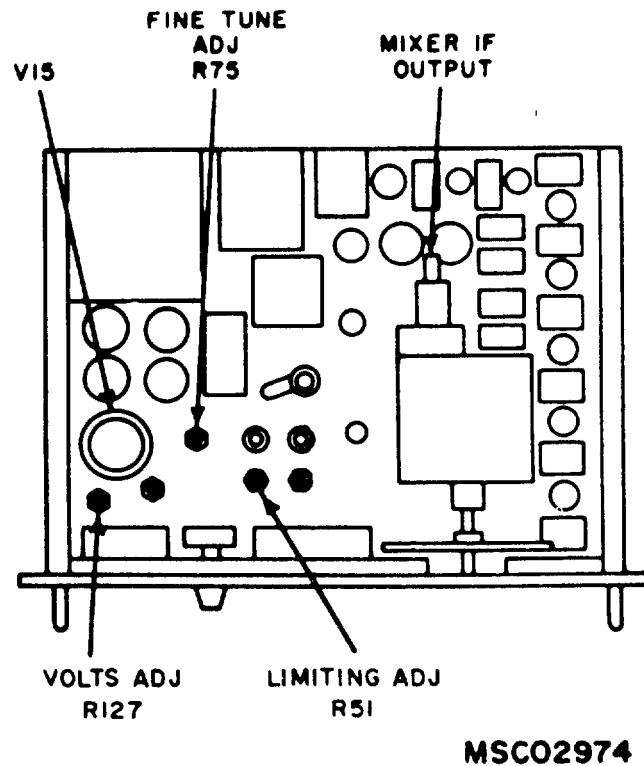

Figure 1. Modulation meter - top view.
(1) Set **FREQUENCY RANGE-MC** switch to 250-500 and adjust **FREQUENCY-MC** dial to 400.
(2) Adjust signal generator (A6) for a 400-MHz CW signal output at 5 mV amplitude.
(3) Adjust TUNING control for maximum indication on LIMITING meter while maintaining 5 mV amplitude. If LIMITING meter pointer is not within the black area, perform **b** below.
b. Adjustments. Adjust LIMITING ADJ R51 (fig. 1) until TI LIMITING meter pointer is at beginning edge of black area (R).
(1) Adjust signal generator for an indication of 250 kHz above value recorded in **a**(4) above.
(2) Adjust FINE TUNE ADJ R75 (fig. 1) until CARRIER SHIFT meter indicates a negative shift of 250 kHz (R).
a. Performance Check. Connect digital voltmeter (A3) between pin 6 of V15 (fig. 1) and chassis ground, using probe (B7). If digital voltmeter does not indicate between 189.15 and 200.85 V dc, perform **b** below.
b. Adjustments. Adjust VOLTS ADJ R127 (fig. 1) for a 195-V dc indication on digital voltmeter (R).